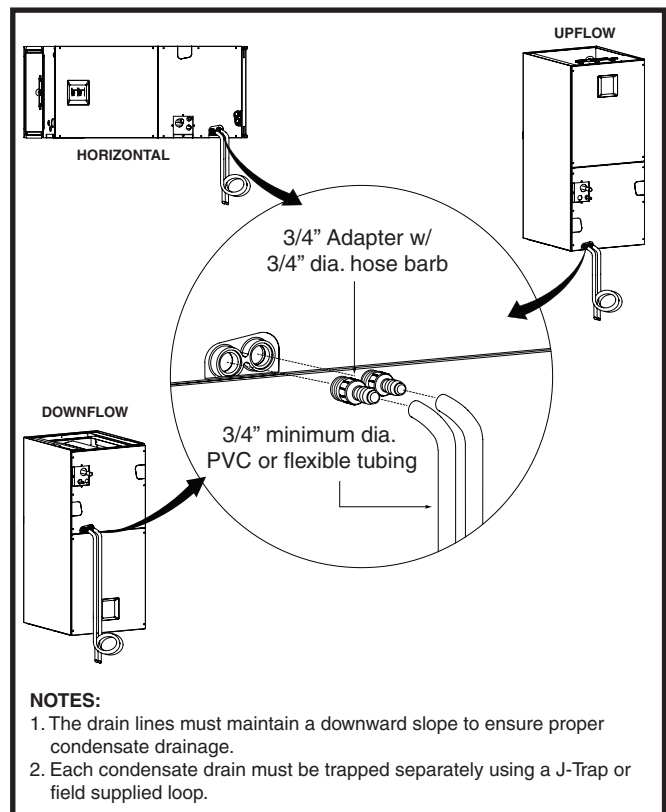

Figure 6. Condensate Drainage Example
- The drain pan that is supplied with this air handler contains a primary and secondary drain fitting. The condensate is drained from the unit through two 3/4" female pipe fittings located on the front side of the unit as shown in Figure 6.